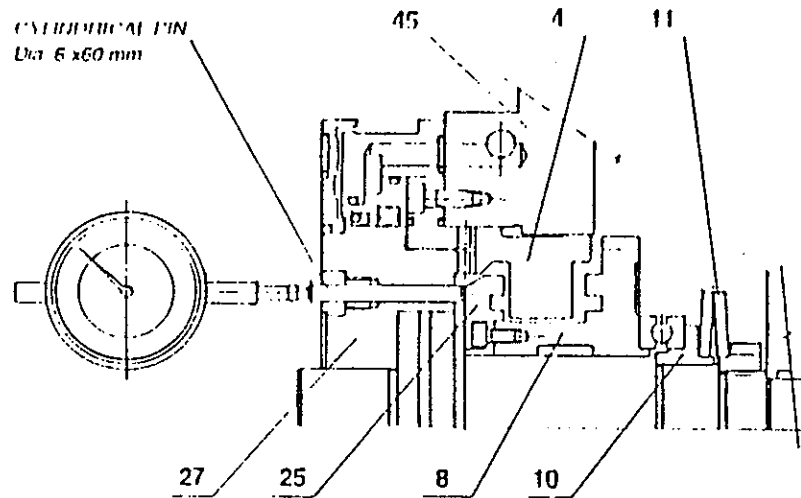

FIG 14.1
14. Inspection of clamping action of disc spring (FIG. 14.1) :